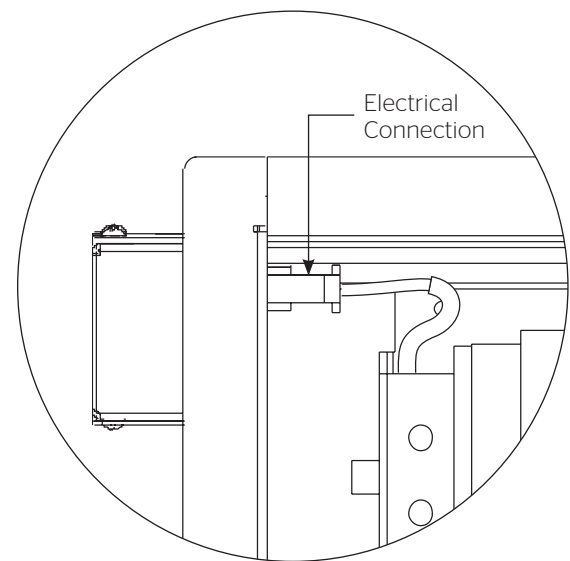

Figure 19
7. Complete electrical hook-up by plugging in 3 or 4 wire motor connector and RJ-22/45 cable (if applicable) to the junction box. See Appendix A for motor type details. (Figure 19).